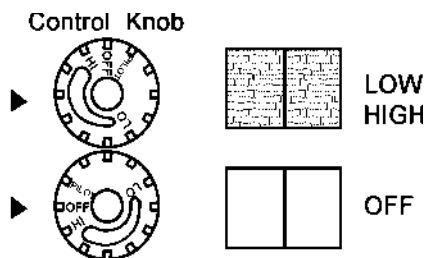

Figure 22 - Burner Patterns
8. Turn control knob counterclockwise ↻ to desired seating level. The main burner should light. Set control knob to any heat level between HI and LO. (see Figure 22)